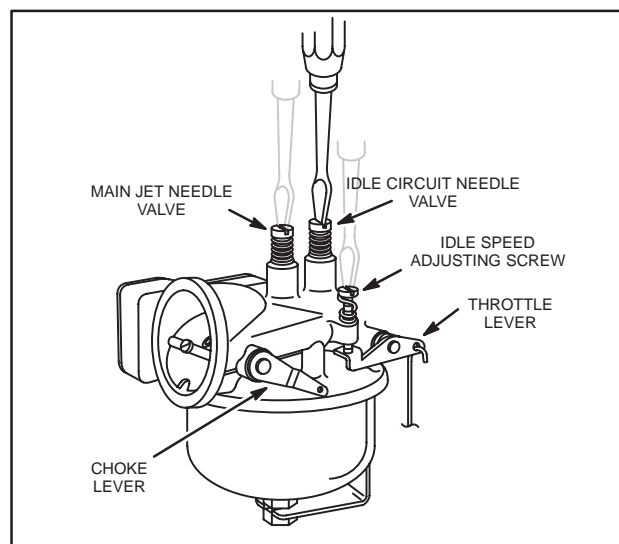

Fig. 293 – CARBURETOR ADJUSTMENT
1. Turn idle and main jet mixture needle clockwise until lightly contacting the seat. Fig. 293.
2. Turn main jet needle valve to midpoint between rich and lean so engine runs smoothly, Fig. 293.